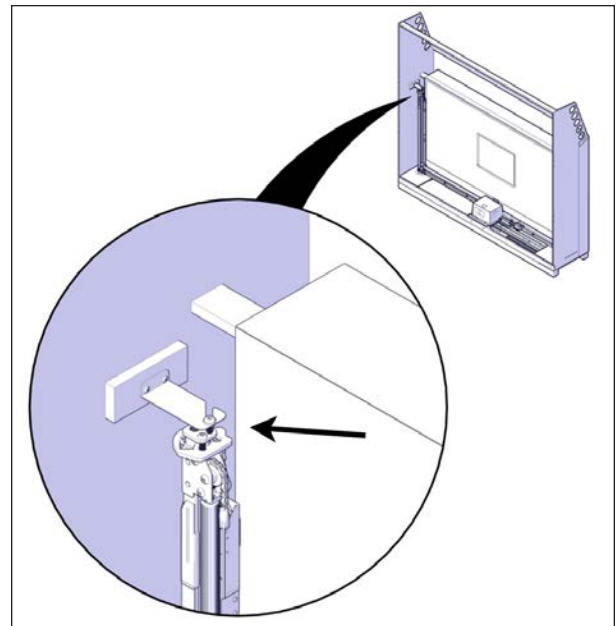

FIGURE 26: LOOSEN TOP SCREW ON JACKS
8. For each jack, use the 7/32" (5.5 mm) Allen key to loosen —but not fully remove—the 3/8" x 1" bolt holding the jack to the top bracket Figure 26. There is one bolt per jack. Do not discard this bolt and bushing; they are required to assemble the cover.